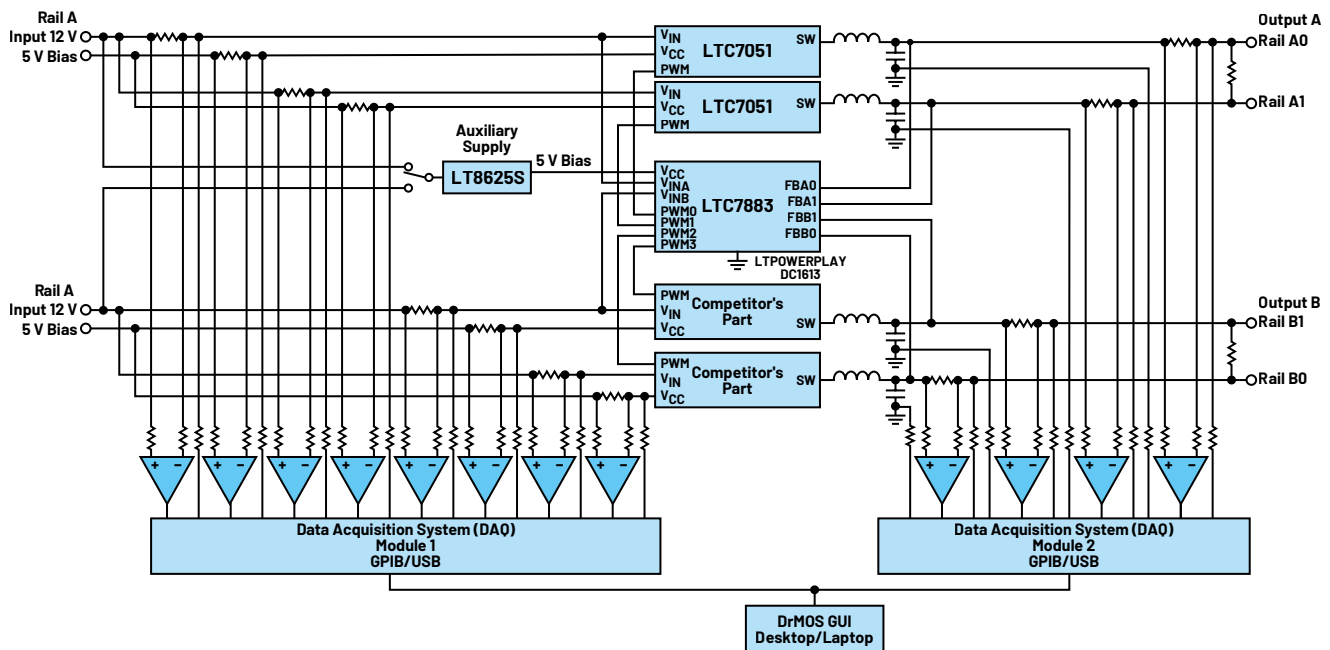

Figure 2. Analysis demonstration board block diagram.
- ▶ A PWM controller that can operate on a wide range of input and output voltages and switching frequencies. In this application, the controller is LTC7883, a quad output polyphase step-down DC-to-DC voltage-mode controller, shown in Figure 2.